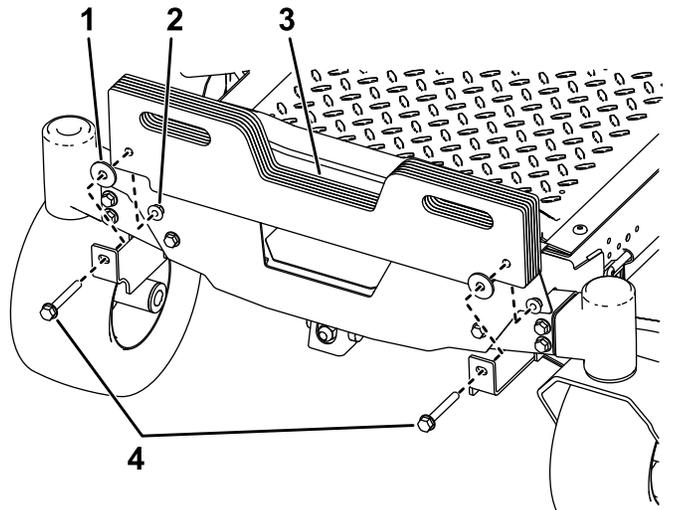

Figure 13
5. **For machines with a bagger installed only:** Install the included additional suitcase weights to the machine using 2 bolts (3/8 x 3-3/4 inches) as necessary according to the table below (Figure 13).